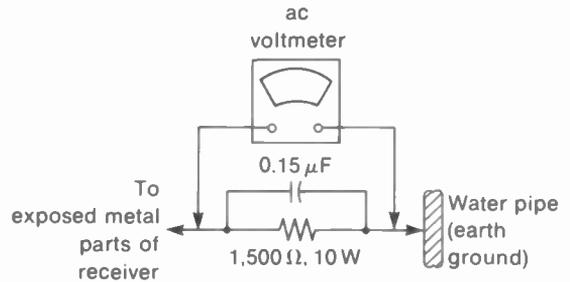

FIGURE 7-32 CONNECTIONS FOR TESTING LEAKAGE CURRENT FROM AC LINE ON RECEIVER WITHOUT A POWER TRANSFORMER.
**Leakage current hot check.** Plug line cord into ac outlet and turn receiver on. Connect a 1,500- $\Omega$  resistor and 0.15- $\mu$ F capacitor in parallel, as shown in Fig. 7-32. Using long clip leads, put this combination in series between earth ground and exposed metal parts of the receiver. Measure the ac voltage across the RC combination. Do this with the ac plug connected in both polarities, if the plug is not polarized. The ac voltage measured across *R* and *C* must not exceed 0.35 V, rms value. Use a portable voltmeter, not plugged into the power line.